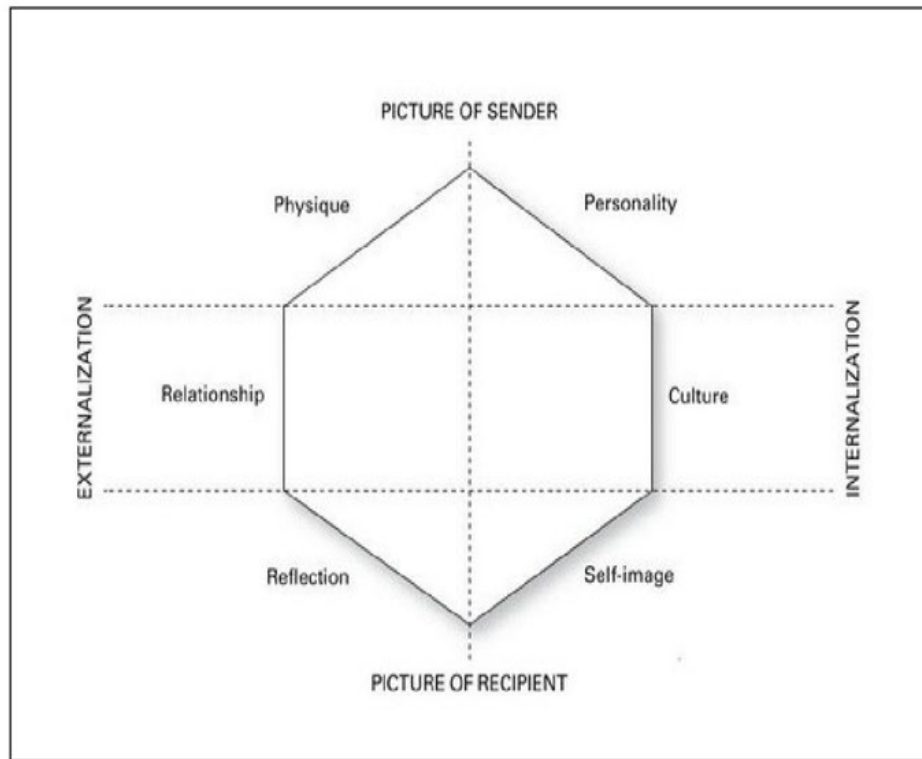

Figure 59 – Brand Identity Prism
My marketing professor then went on to introduce the class to a model developed by French academic J.N. Kapferer. (3) In the late 1990s, Kapferer unveiled his Brand Identity Prism. His prism is depicted as a six-sided figure as shown in Figure 59.